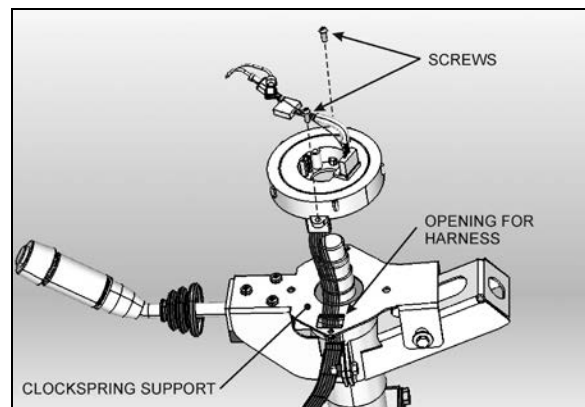

FIGURE 14: CLOCKSPRING INSTALLATION
3. Route the new clockspring harness through the opening in the clockspring support (Figure 14). Plug the connector at the base of the steering wheel column and fix harness along the steering wheel column.